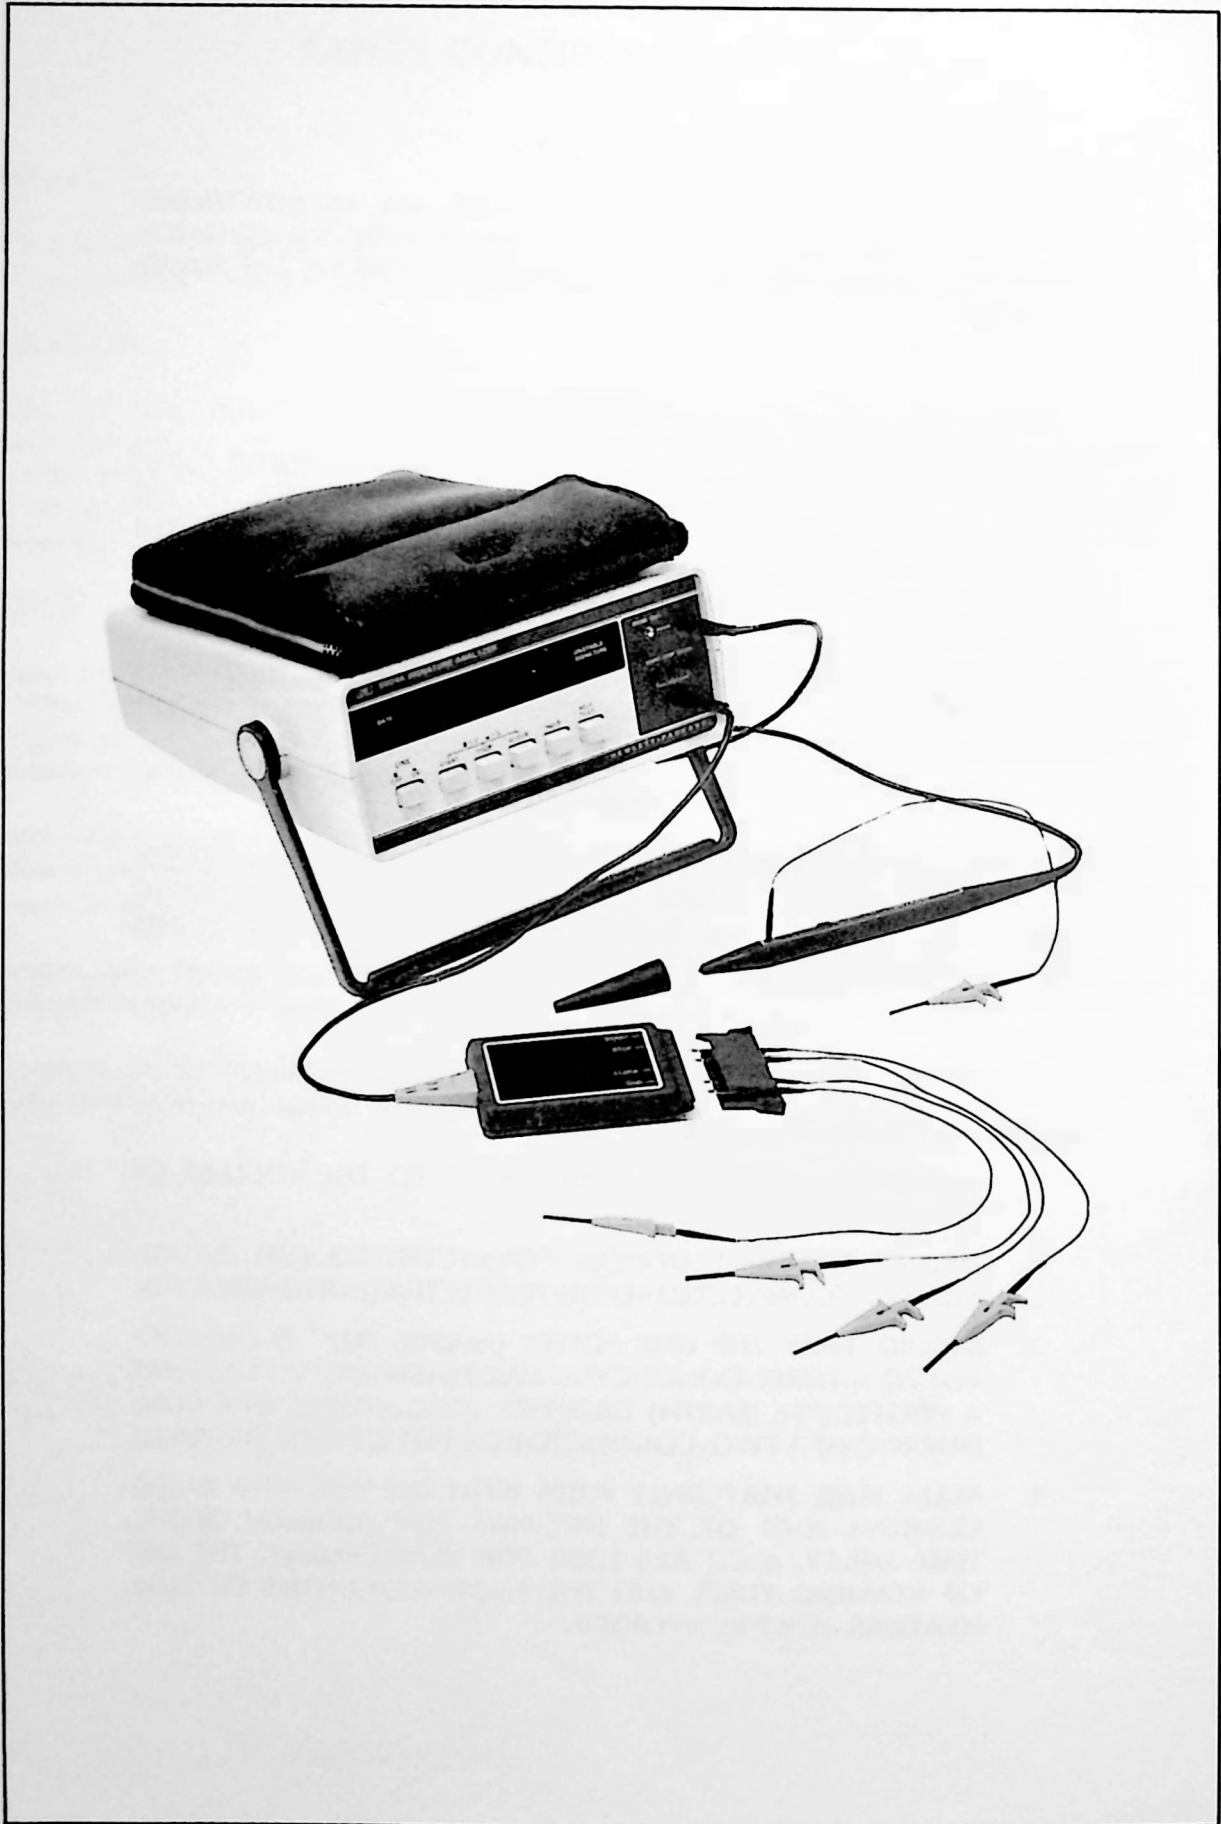

Figure 1-1. Model 5004A Signature Analyzer
1-2. This operating and service manual contains information needed to operate, test, and service the Hewlett-Packard Model 5004A Signature Analyzer. *Figure 1-1* shows the 5004A.
- 1-20. The accessories supplied with the 5004A are shown in *Figure 1-1*.
2-4. Inspect the shipping container for damage. If the shipping container or cushioning material is damaged, it should be kept until the contents of the shipment have been checked for completeness and the instrument has been checked mechanically and electrically. The contents of the shipment should be as shown in *Figure 1-1*; procedures for checking electrical performance are given in Section IV. If the contents are incomplete, if there is mechanical damage or defect, or if the 5004A does not pass the performance tests, notify the nearest Hewlett-Packard office. If the shipping container is damaged, or the cushioning material shows signs of stress, notify the carrier as well as the Hewlett-Packard office. Keep the shipping materials for carrier's inspection. The HP office will arrange for repair or replacement at HP option without waiting for claim settlement.